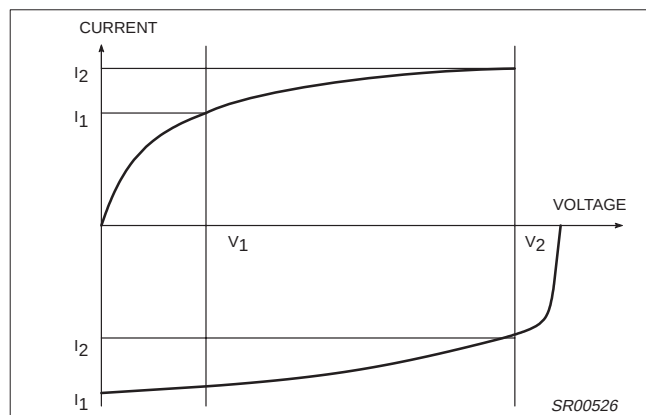

Figure 3. Relative Output Current Variation
1. The relative output current variation is defined thus: $\frac{\Delta I_{OUT}}{I_{OUT}} = 2 \cdot \frac{(I_2 - I_1)}{I(I_2 + I_1)}$; WITH $V_1 = 0.7\text{V}$, $V_2 = V_{CCCP} - 0.8\text{V}$ (see Figure 3).